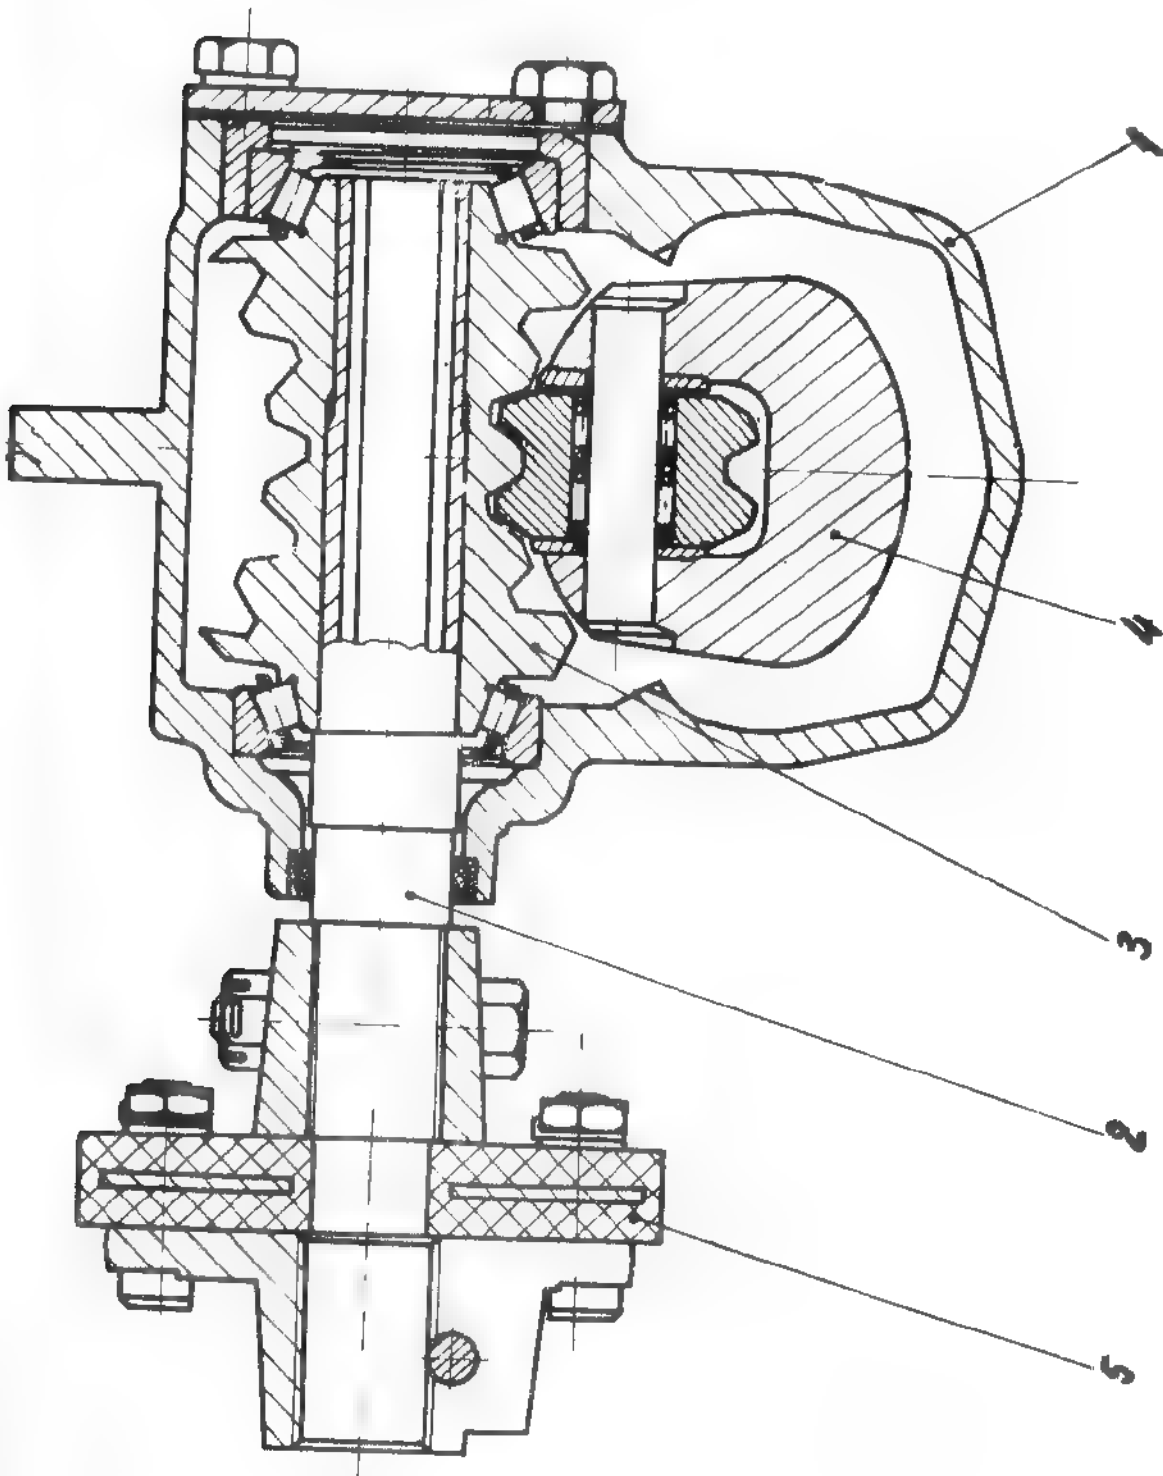

Fig. 4.142. STEERING GEAR BOX
The steering gear box of monoblok type is provided with a double roller (caster wheel) and an hour glass worm (see Fig. 4.142).
- Unscrew bolts fastening the housing side plate (1) and remove the plate together with the drop arm shaft (4) - (see Fig. 4.142).
- In case the cover bearing (2) is worn, i.e. the drop arm shaft has a sensible play in the bearing bore, remove the worn bearing, by means of D 149 extractor, and replace it by a new bearing.
- In case the steering roller (caster wheel) has a lateral play in the arm shaft (4) (see Fig. 4.142), or if its races are damaged or worn out (has a play against the worm even in the closest adjusted position), the shaft should be replaced by a new shaft assembled with double roller.
- Undo split pin and unscrew the nut fastening the flexible coupling flange on the steering worm shaft (2).